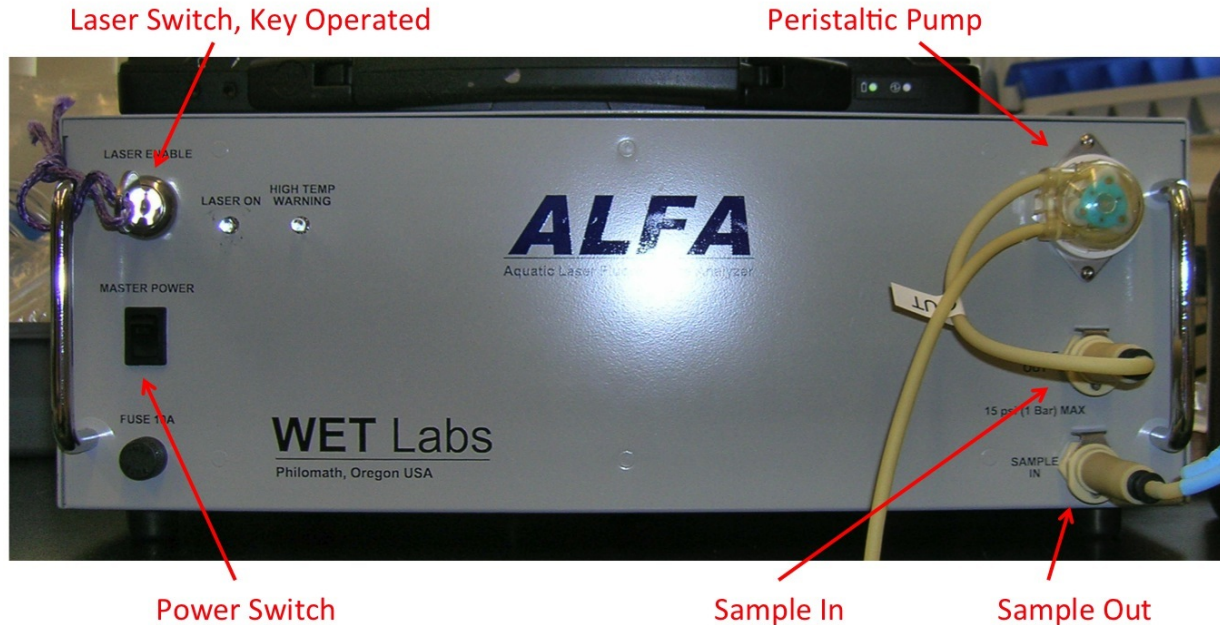

Figure 2: Power switches and input and output ports. Peristaltic pump will only be connect to sample in and out when cleaning the instrument
2. Turn ALFA on (rocker switch located on the front of the ALFA) then turn lasers on (key switch on the front of the ALFA) (figure 2)